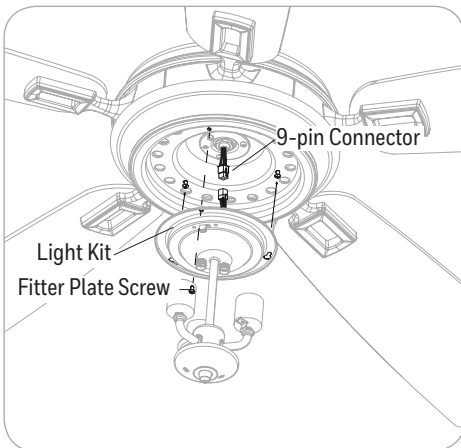

Figure 5.7
7. Remove one of the three light pan screws from the light pan and loosen the other two screws. Then, connect the 9-pin connector from the fan to the 9-pin connectors from the light kit. Align the screw holes of the light kit over the loosened light pan screws and turn in a clockwise direction. Replace previously removed light pan screw. Tighten all screws (Figure 5.7).